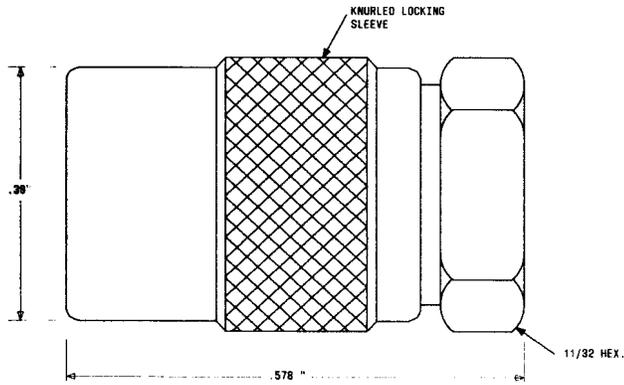

Fig. 12—KS-20864-Type Adapter Tool
2.12 **KS-20864, L16, L17, L18, and L19:** The KS-20864-type tools (Fig. 12) are positive lock adapters.